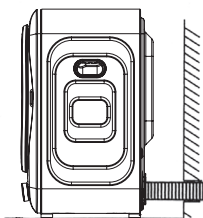

Figure 5
- **Step 3:** Connect the Flexible Vent Hose to the connector. Extend the hose to a window or ventilation wall outlet (See Figure 5 & 6).